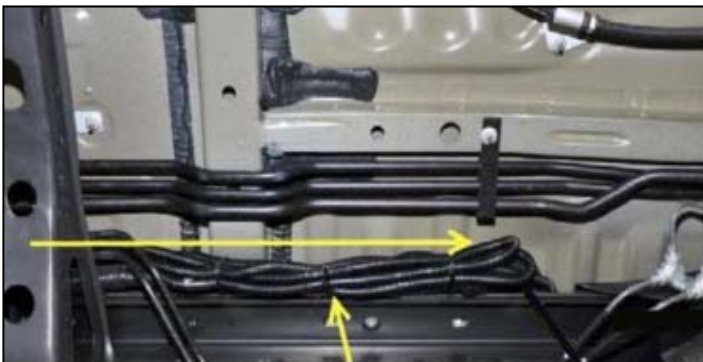

Figure 18
18. Secure wire harness along the kick panel using wire ties as needed. See Figure 18.